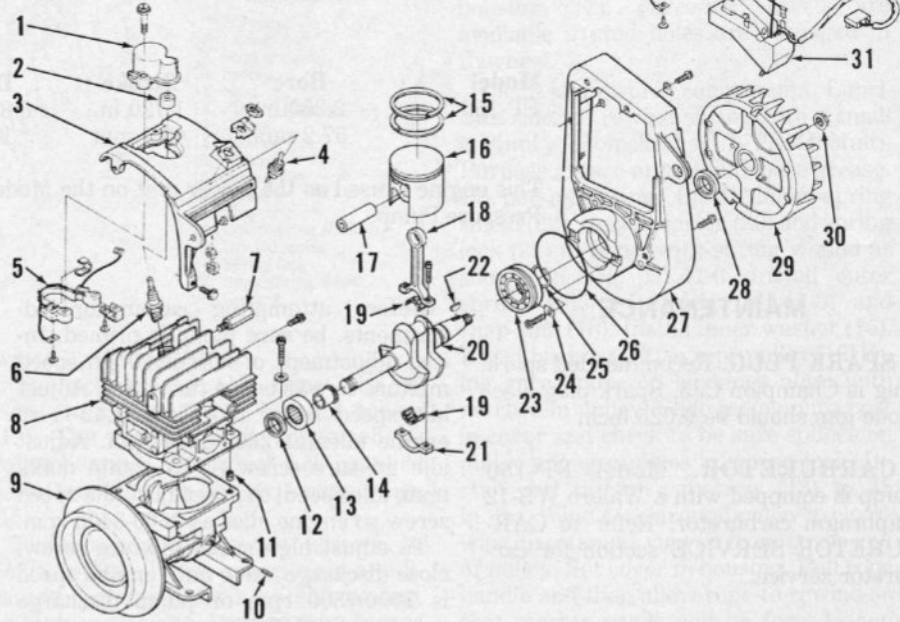

Fig. HL42-6—Exploded view of engine used on Model FP-150 pump.
CRANKSHAFT, CRANKCASE AND SEALS. Crankshaft is supported by a roller bearing (13-Fig. HL42-6) in crankcase (9) and by a ball bearing (23) in back plate (27). Bearing (23) and crankcase (9) and by a ball bearing (23) when separating crankcase and back plate. Remove bearing retainers (24), heat back plate and remove crankshaft with bearing (23). Wrap crankshaft end with tape to prevent scratches, remove snap ring (25) and pull bearing off crankshaft. Roller bearing and seals may be pressed out of crankcase and back plate using Homelite or other suitable tools. Inspect components for